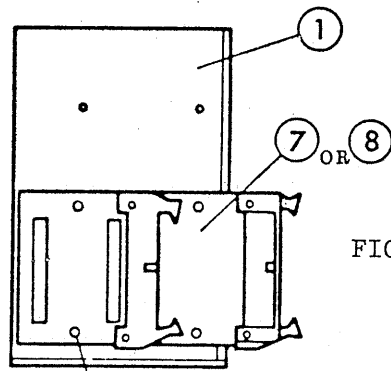

FIG. 4
1) Fix connector board A (7) or B (8) to I/F bracket (1). (See Figure 4.)